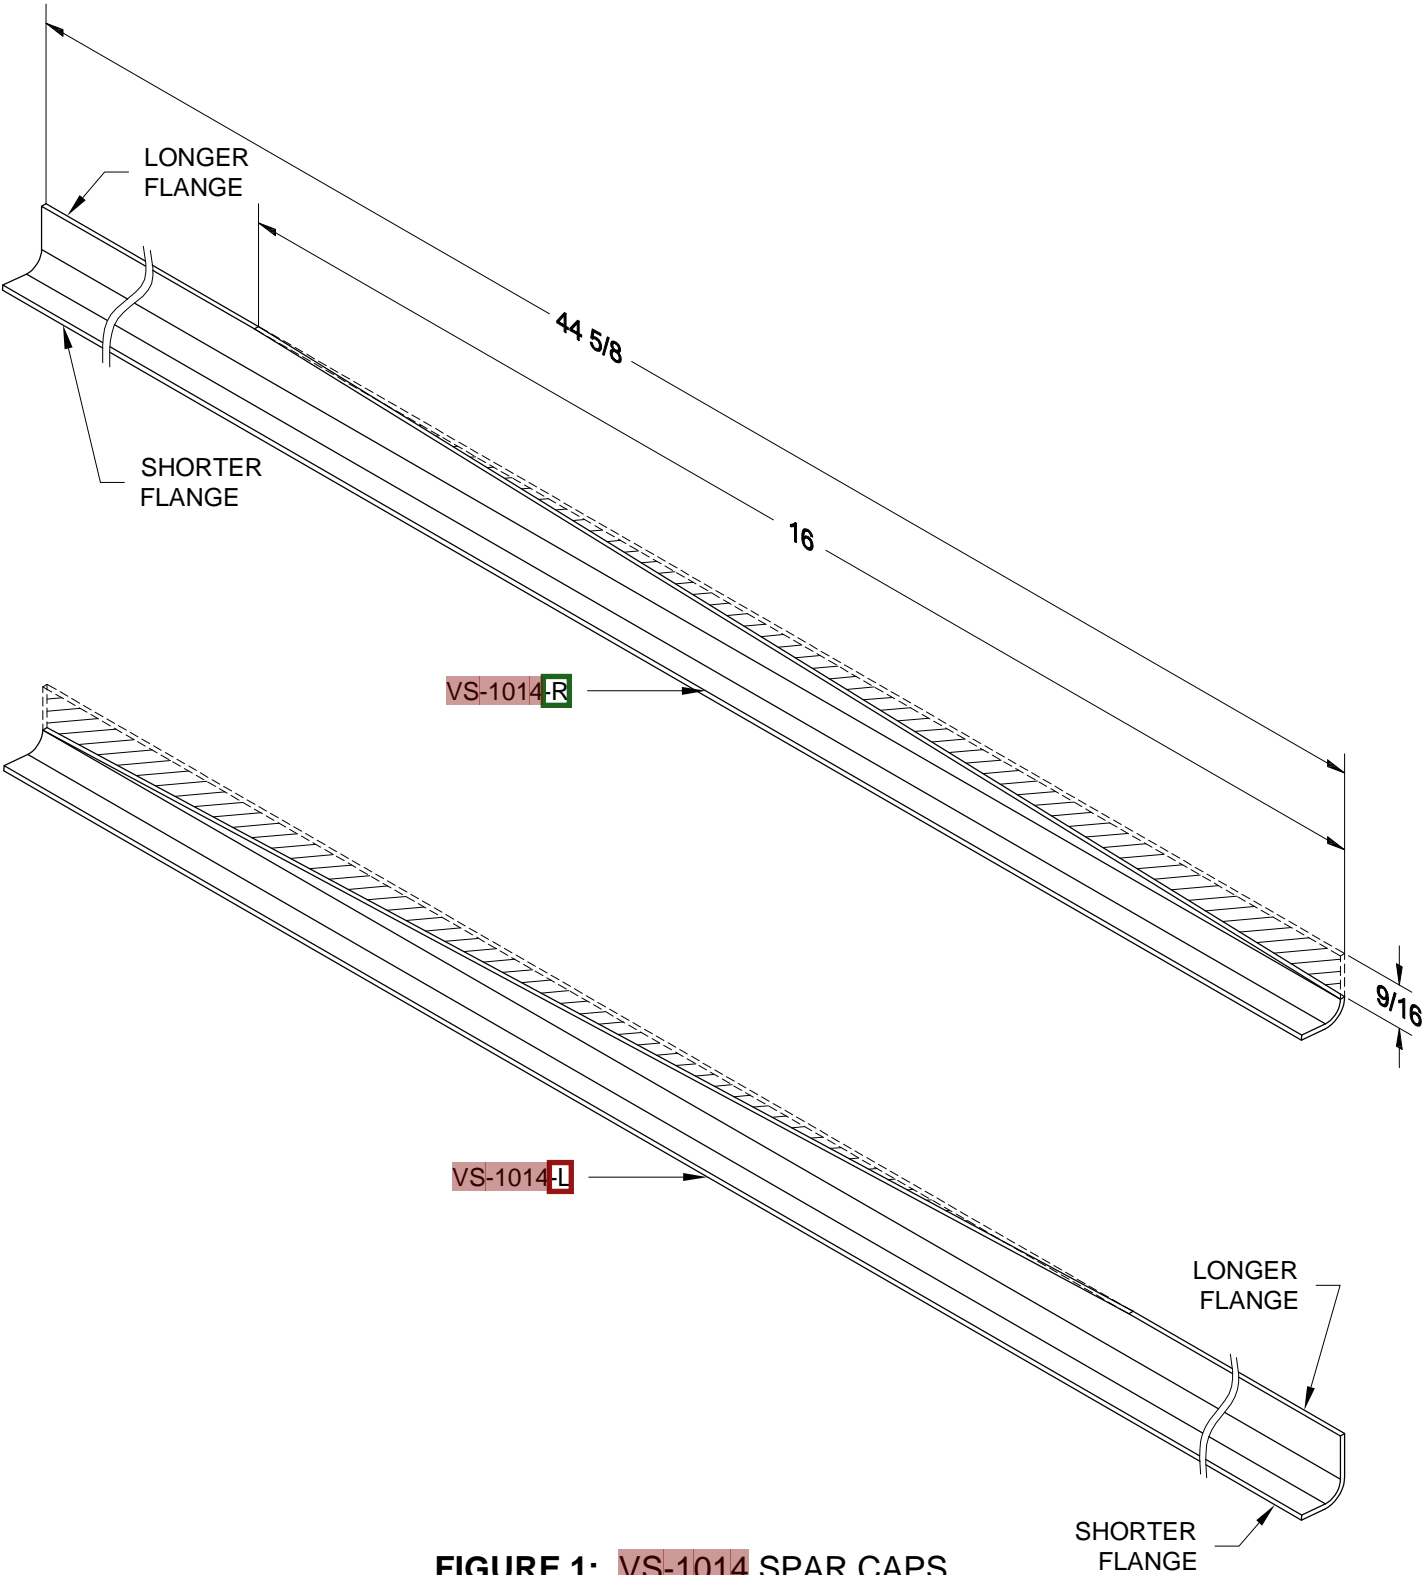

FIGURE 1: VS-1014 SPAR CAPS
Step 1: Trim flange material (shaded areas) from opposite ends of the two VS-1014 Rear Spar Caps using the dimensions (which apply to both spar caps) in Figure 1. Make sure to trim the material from the longer of the two flanges. (When marking the parts for trimming, clamp them to a table or back to back to remove the bow in the parts.) Once trimmed the spar caps become dedicated left and right parts (VS-1014-L and VS-1014-R respectively) as labeled in the figure. Deburr (Section 5B) the edges of both spar caps to prevent them from scratching mating parts.